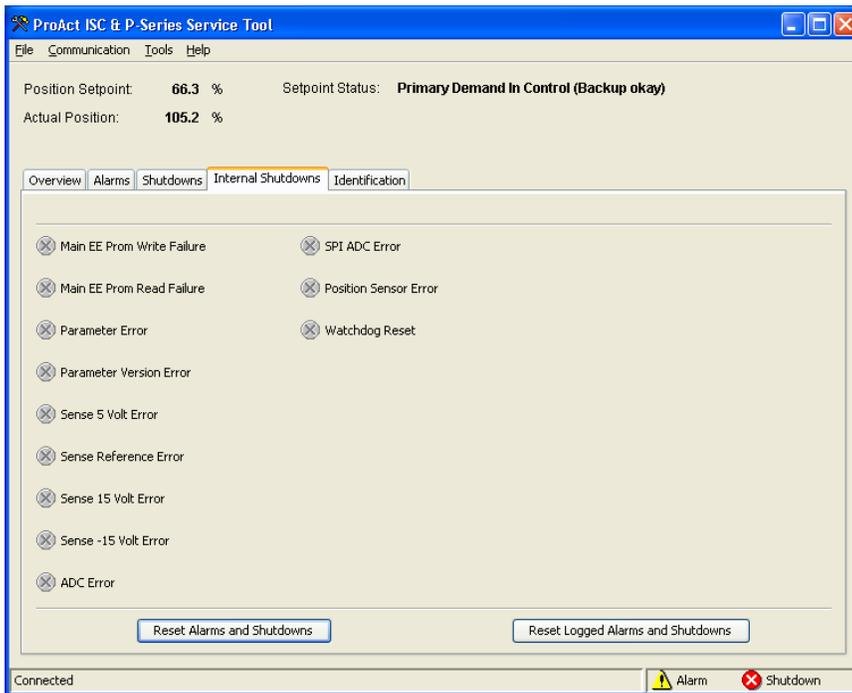

Figure 4-7. Service Tool—Internal Shutdowns Tab
- Internal Shutdowns, (see Figure 4-7)